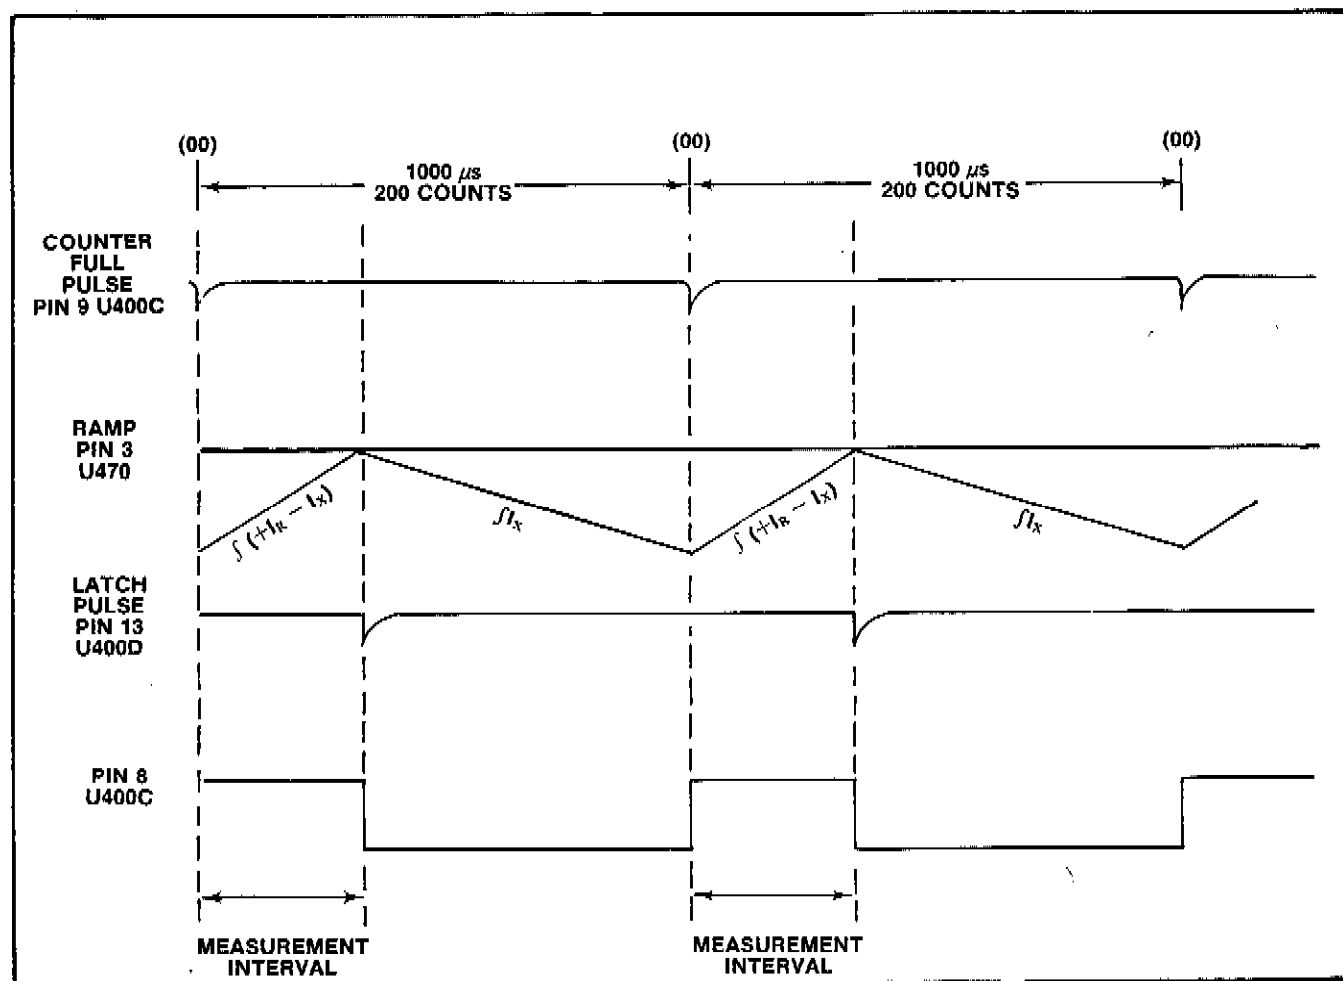

Fig. 2-1. DVM timing diagram for a negative input to the Integrator U460.
The system contains two reference current sources; a +I_s source from the collector of Q415, and a -I_s source from the collector of Q440. Only one of these current sources is switched on at a given time, dependent on the polarity of the voltage change on the 100-volt bus. For a ramp that is negative, pin 5 of U400B is set to a high and pin 1 of U400A is set to a low. Pins 2 and 4 of these NAND gates connect to a common control line, and while the counter is counting up to a count of 200 (00), pin 8 of U400C is at a low level. During the first ramp period, the output levels of U400A and U400B are high and both reference current sources are cut off. See Fig. 2-1.